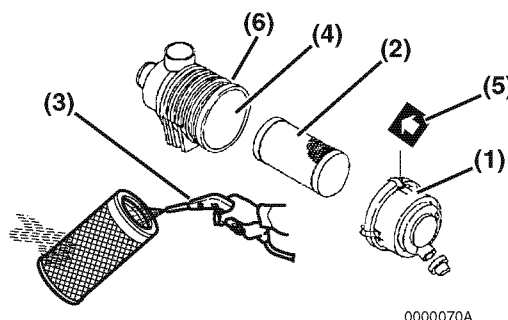
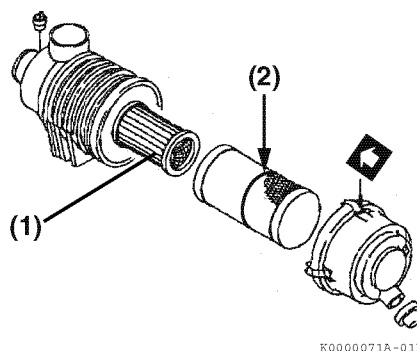

Figure 13
Figure 14
Note that a typical air cleaner is shown in **Figure 13** and **Figure 14** for illustrative purposes only.
1. Unlatch and remove the air cleaner cover (**Figure 13, (1)**).
2. Remove the element (**Figure 13, (2)**) (outer element if equipped with two elements).
3. Blow air (**Figure 13, (3)**) through the element from the inside out using 42-71 psi (0.29-0.49 MPa, 3.0-5.0 kgf/cm²) compressed air to remove the particulates. Use the lowest possible air pressure to remove the dust without damaging the element.
4. If the air cleaner is equipped with a double element, *only remove and replace the inner element (Figure 14, (1)) if the engine lacks power or the dust indicator actuates (if equipped).*
7. Reinstall the element into the air cleaner case (**Figure 13, (4)**).
Note: If there is a red line (**Figure 14, (2)**) in the outer element, reinsert the element until the overlap position of red line and end face of the air cleaner case.
8. Reinstall the air cleaner cover making sure you match the arrow (**Figure 13, (5)**) on the cover with the arrow on the case (**Figure 13, (6)**).
Replace the air cleaner element (**Figure 13, (2)**) every 500 hours even if it is not damaged or dirty.
When replacing the element, clean the inside of the air cleaner case (**Figure 13, (4)**).
If the air cleaner is equipped with a double element, *only remove and replace the inner element (Figure 14, (1)) if the engine lacks power or the dust indicator actuates (if equipped)*. This is in addition to replacing the outer element.